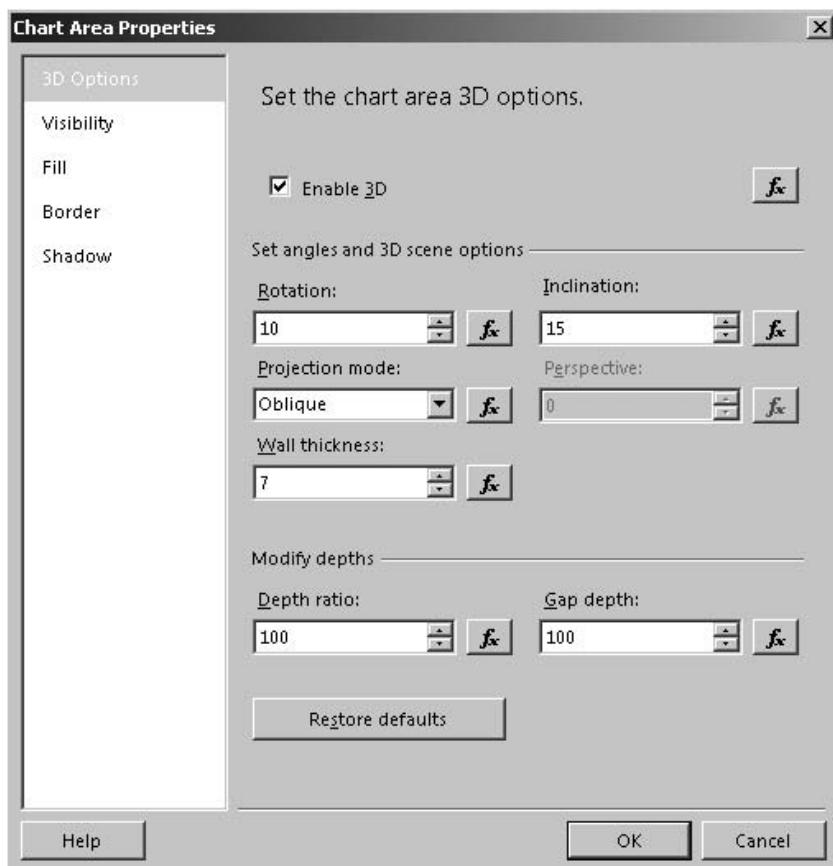

Figure 16-55 The 3D Options page of the Chart Area Properties dialog box
76. Change Inclination to **15**. The 3D Options tab appears as shown in Figure 16-55.